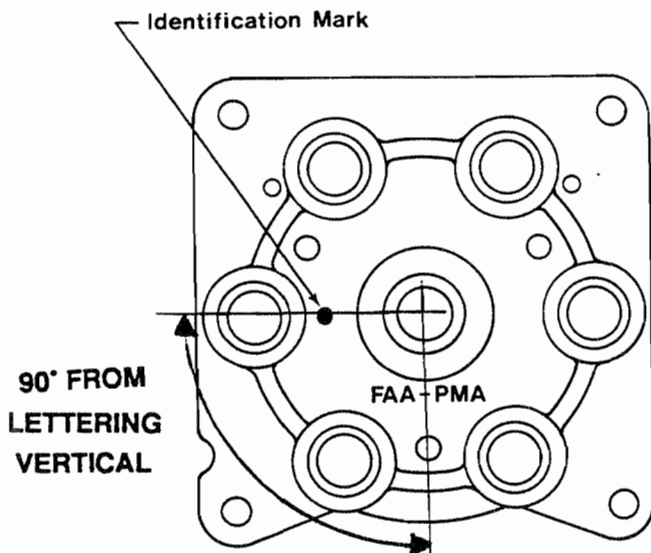

Figure 703. Location of Identification Mark on Green Distributor Blocks
- A. Green distributor blocks which do not display identification mark shown in Figure 703 must be discarded and replaced at overhaul. Make appropriate engine log book entry, referencing magneto serial number, and stamp a letter R in the lower left hand corner of the name plate.
- B. Insert gear (25) into distributor block (79). Apply light hand pressure to first one side of gear, then the other. If any play can be felt as gear is "rocked" manually, block bushing is worn excessively. Replace block (21).
- C. Examine distributor block (21) for cracks, particularly around high tension terminal towers, mounting ears and nose in center of electrode side. Reject any cracked blocks (21).
- (1) Use a medium test clip to ground tester to an electrode of the block.
- (2) With high tension lead of tester, probe electrode adjacent to grounded one.
- (3) Tester high voltage will follow a carbon track. Complete test of all interelectrode spaces. Also test between grounded center bushing and all electrodes. Temporarily assemble block (21) into housing (72) and test for carbon tracking between electrodes and housing ground. Reject any carbon tracked blocks (21).